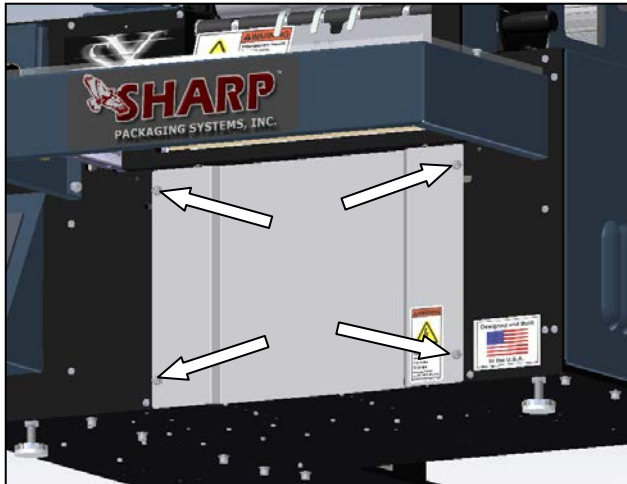

Figure 3-96. Load Plate Screws
1. Remove the four screws holding the Load Plate, set Load Plate aside (Figure 3-96).